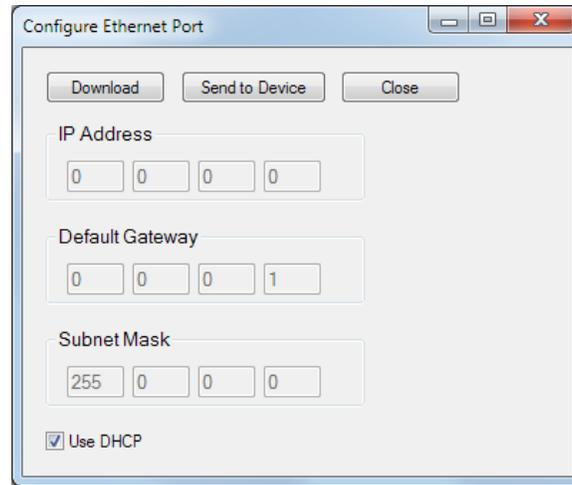

Figure 30-2. Configure Ethernet Port
Located on the rear panel, the optional Ethernet communication port provides dynamic addressing (DHCP) as well as communication with a PC running BESTCOMSP*lus* and Modbus software. Additional Ethernet settings are illustrated in Figure 30-2.
5. Select Configure, Ethernet from the Communication pull-down menu. If the BE1-700 is connected properly, the Configure Ethernet Port screen shown in Figure 30-2 will appear.